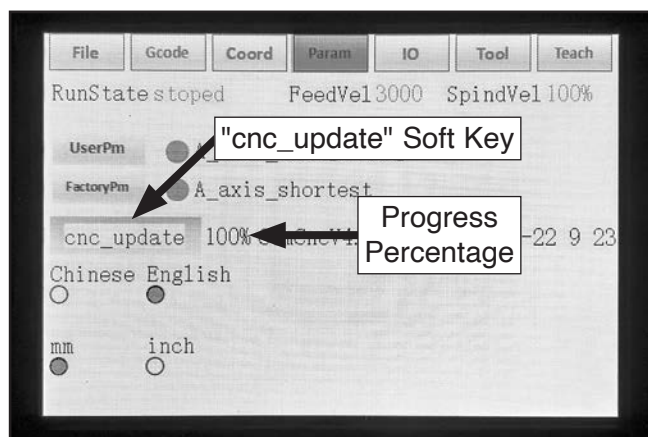

Figure 90. Example of "Param" screen.
13. Navigate to Param screen, then scroll down to "cnc_update" soft key (see **Figure 90**) and press "Enter" button.
— Firmware update progress will be shown as a percentage (see **Figure 90**).